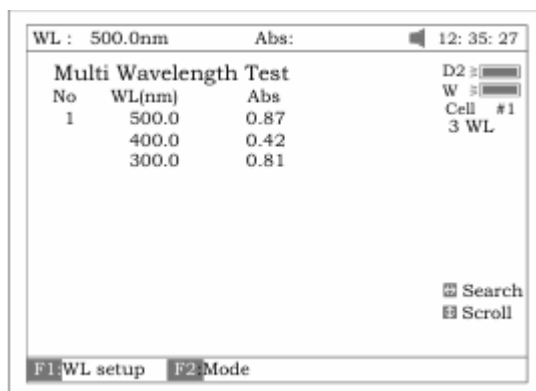

Fig.71
4. Pull the sample cuvette into Main Light Path, press **【START】** to test. The test results will be displayed on the screen (Fig 71).